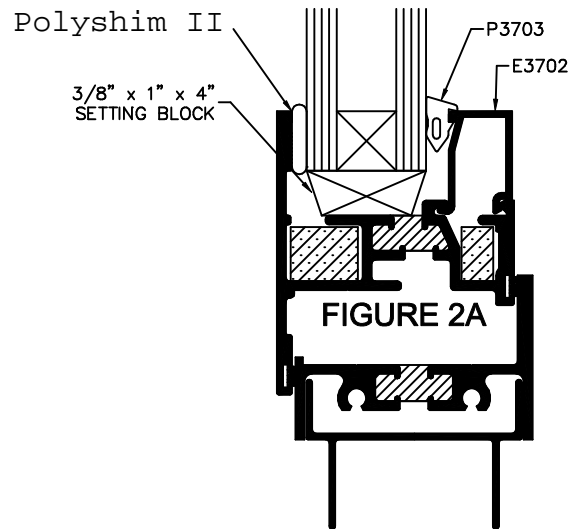

FIGURE 2A
1. APPLY TREMCO BUTYL GLAZING TAPE CONTINUOUS TO SASH AS INDICATED IN FIGURES 2A AND 2B. BACK UP JOINTS WITH 6" LONG TOE BEAD OF BUTYL SEALANT.